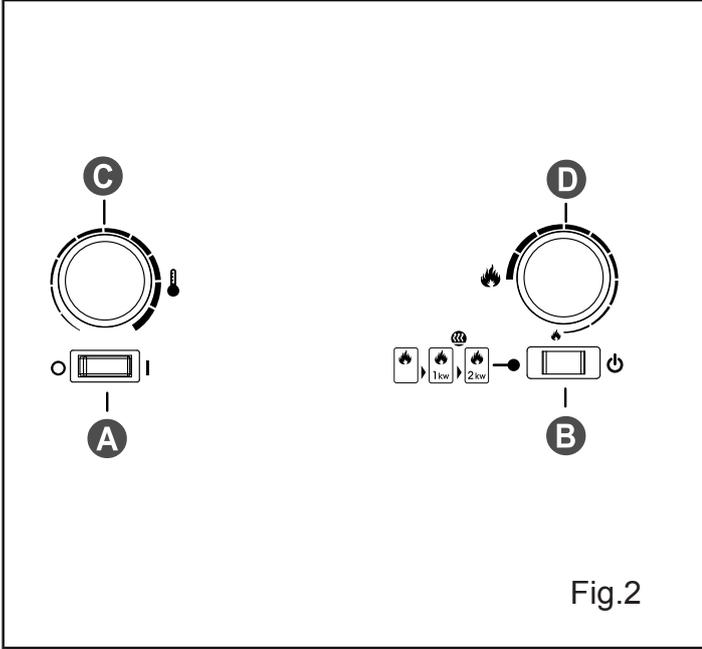
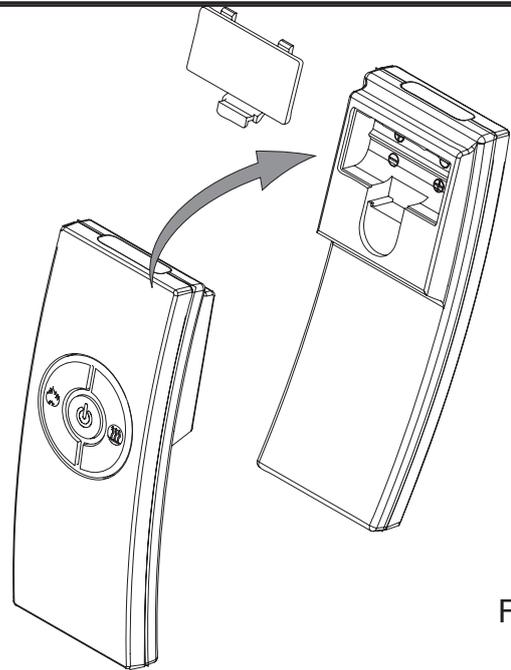
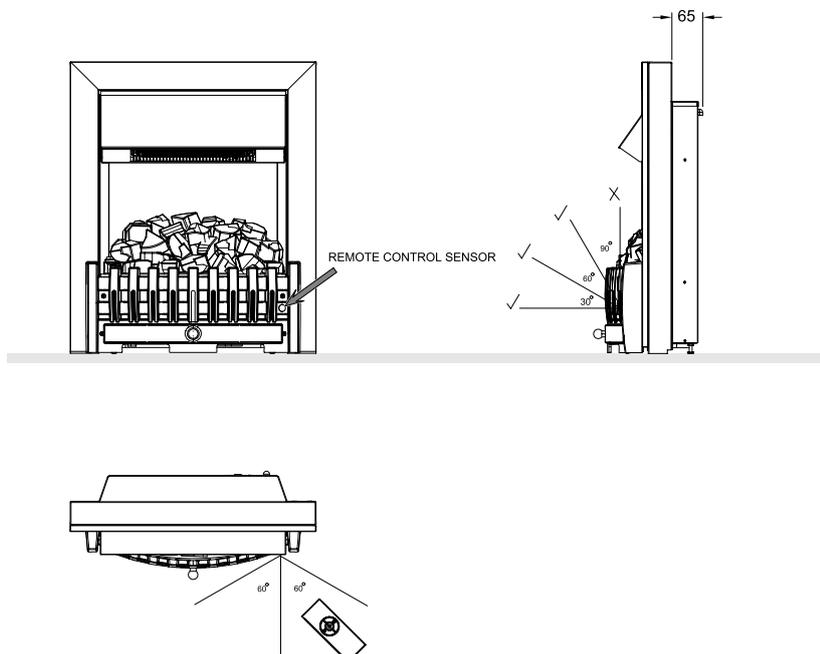

Fig.2
Fig.7
Fig.12
1. Press Switch 'A' to **(O)** (See Fig.2)
9. Press Switch 'A' to 'ON' (I) position (See Fig.2)
1. Press Switch 'A' to the 'OFF' (0) position (See Fig.2)
7. Press Switch 'A' to the 'ON' (I) position (See Fig.2)
On the control panel, Switch A (see Fig.2) must be in the 'ON' (I) position in order for the remote control to operate. There are 3 buttons on the remote control. (See Fig.7) To operate correctly the remote must be pointed towards the front of the grate. (See Fig 12). The remote control functions are as follows: